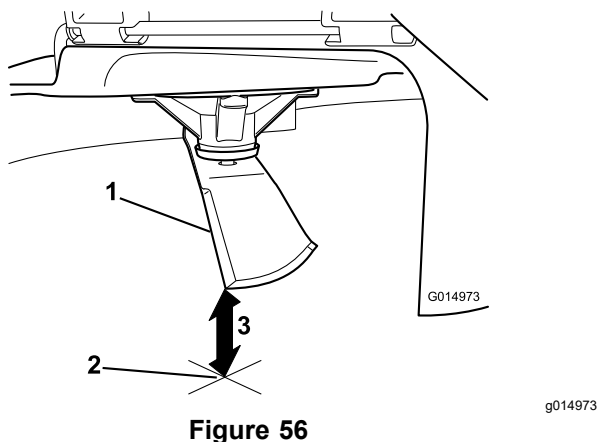

Figure 56
5. Measure from the tip of the blade to the flat surface (Figure 56).